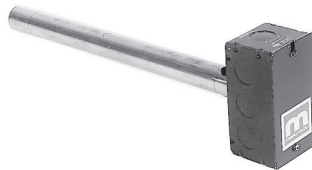

Figure 6. Sensor and Mixing Tube Assembly
- a. For units with sensor and mixing tube assembly (see Figure 6), remove ductwork access panel, slide mixing tube into ductwork, and secure sensor.